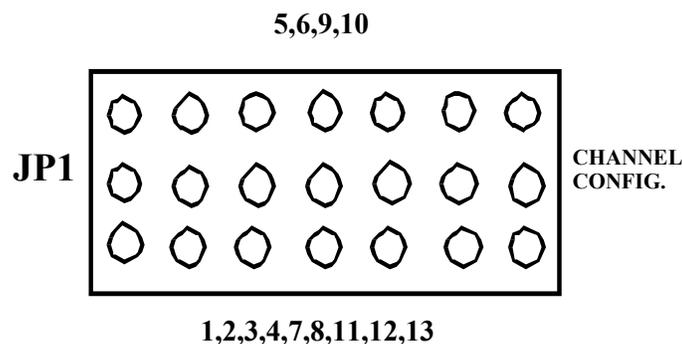

Figure 1. ASC Card Jumper Block
6. On both the operational and spare ASC, set the backup channel configuration using the seven jumpers on JP1. Using all seven jumpers, move the jumpers to the side of the block listing the number of output channels for your site configuration, the center row of pins being common. (Example: Using **Figure 1** as a reference, if your site configuration had 5, 6, 9, or 10 channels, each jumper would connect from the center row of pins to the top row of pins. If your site configuration had 1, 2, 3, 4, 7, 8, 11, 12, or 13 channels, each jumper would connect from the center row of pins to the bottom row of pins.)